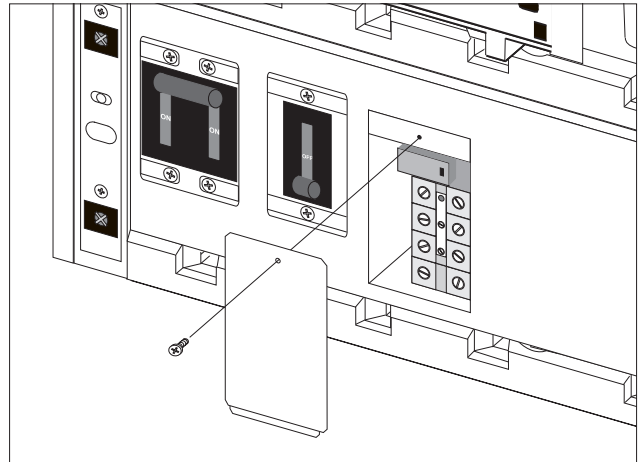

Fig 4-1 Voltage Select Access Panel
1. Refer to figure 4-1. Remove the screw that secures the voltage select access panel to the frame. Place the screw and access panel aside temporarily.